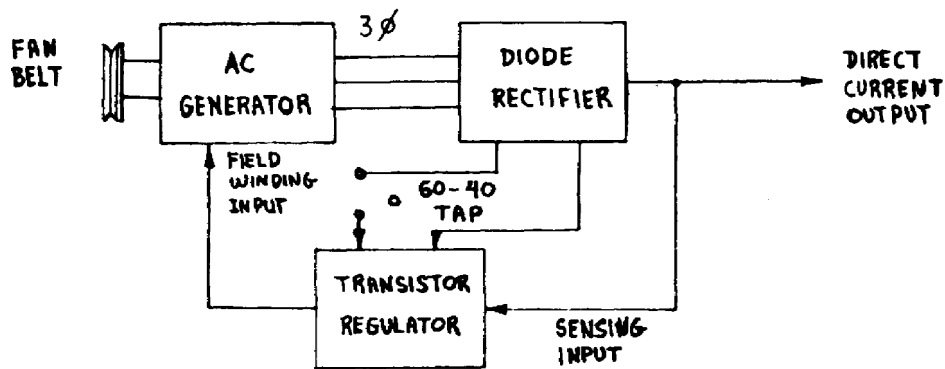

Figure 38. Block diagram of AC charging system.
a. Basically, there are three components to be considered in the operation of the AC charging system: the AC generator, diode rectifier, and transistor regulator (fig 38). The AC generator is of the revolving field type (the rotor is the field) so that only two sliprings are needed. The sliprings and brushes are required to carry only low amperage current to control the exciter field winding flux on the rotor.